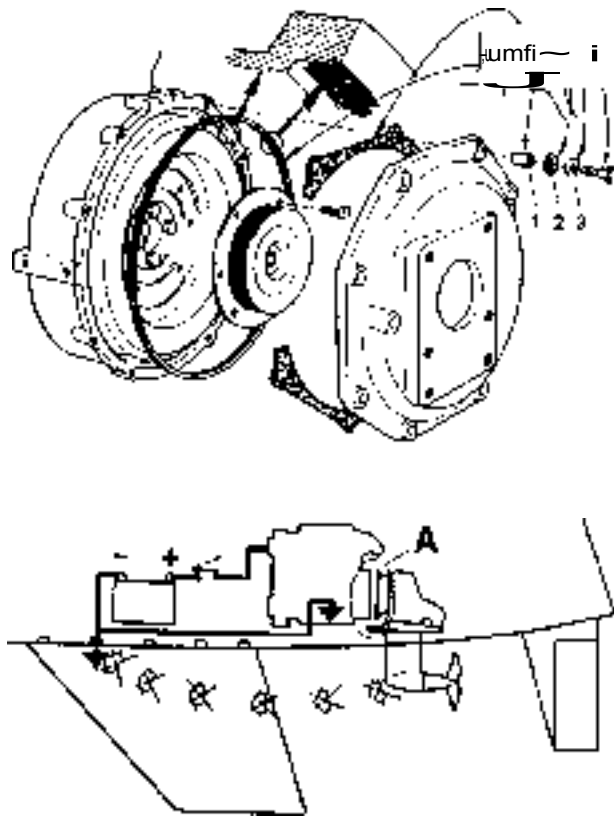

Fig. 113. Electrical insulation (A) of the flywheel housing and transmission
The engine's flywheel housing and transmission (reverse gear/S-drive) are electrically insulated from the engine. Note the fitting sequence on the screw union (Fig. 113). The insulation sleeve pos. 1 is only fitted on one of the screws (optional screw).